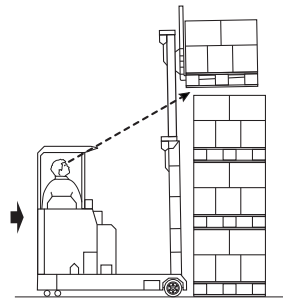

Figure 15
- (c) Move forward if necessary, to bring the reach truck close to the stack, and reapply the parking brake, selecting neutral if applicable. Reach out smoothly, taking care not to dislodge loads in adjacent stacks (Figure 15);